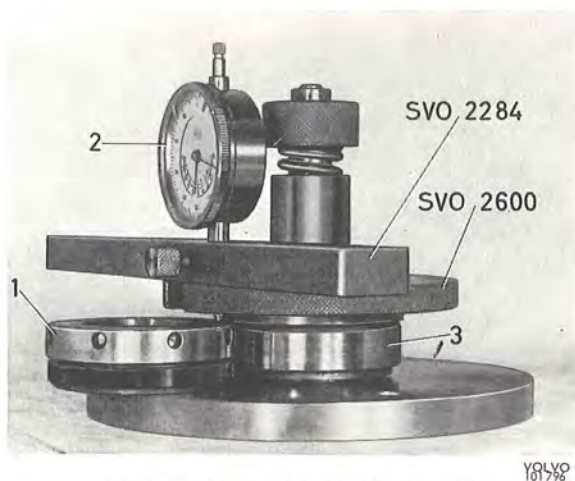

Fig. 4-153. Determining the shim thickness
3. Place the rear pinion bearing complete with the outer ring in measuring fixture SVO 2600. Put on the plate, spring and nut. Turn the nut with the flat side facing upwards. The plate, and thereby the bearing, is turned forwards and backwards several times so that the rollers take up the correct position. Place the adjusting ring in the measuring fixture as shown in Fig. 4-153. Use retainer SVO 2284 and dial indicator, place the measuring point of the indicator opposite the adjusting ring and zero-set the indicator. Then set the pointer of the indicator to the outer ring of the bearing. The dial indicator now shows directly the thickness the shims should have. Measure the shims for the correct thickness with a micrometer, see Fig. 4-154. N.B. It is almost impossible to obtain a shim with exactly the correct thickness. However, they must not be .03 mm (.0012") thicker than the measured value, but up to .08 mm (.0032") thinner.
Rotate the plate forwards and backwards several times. Put on the dial indicator and retainer SVO 2284. Zero-set the indicator to the adjusting ring and then place the measuring point facing the bearing, see Fig. 4-153. Read off the indicator. With a micrometer measure the shims, the total thickness of which corresponds to the read-off value + .07 mm (.003"). Place the shims together with the measured bearing to the one side. Repeat the above procedure with the other bearing.